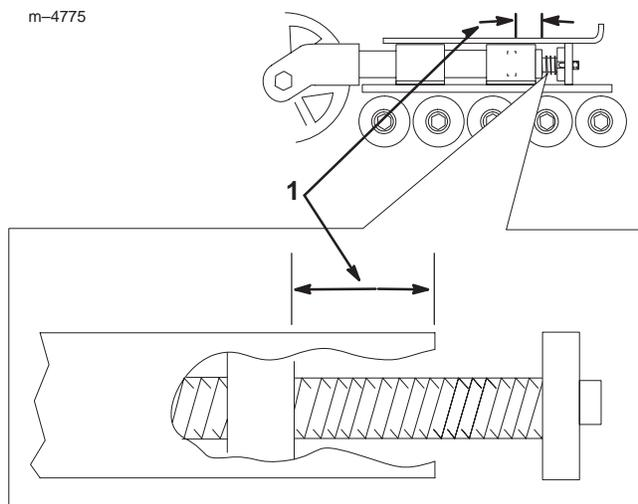

Figure 32
- Turn the tensioning screw counter-clockwise until the distance between the tension nut and the back of the fork tube (Fig. 32) is 2 3/4 in. (7 cm.).